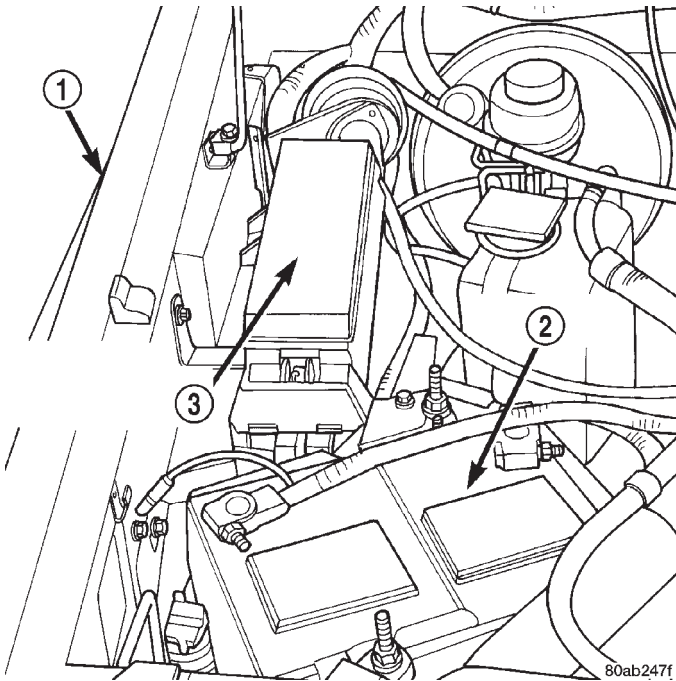

Fig. 17 Power Distribution Center
(1) Disconnect and isolate the battery negative cable.
(2) Remove the cover from the Power Distribution Center (PDC) (Fig. 17).
(3) See the fuse and relay layout label affixed to the underside of the PDC cover for starter relay identification and location.
(4) Remove the starter relay from the PDC.